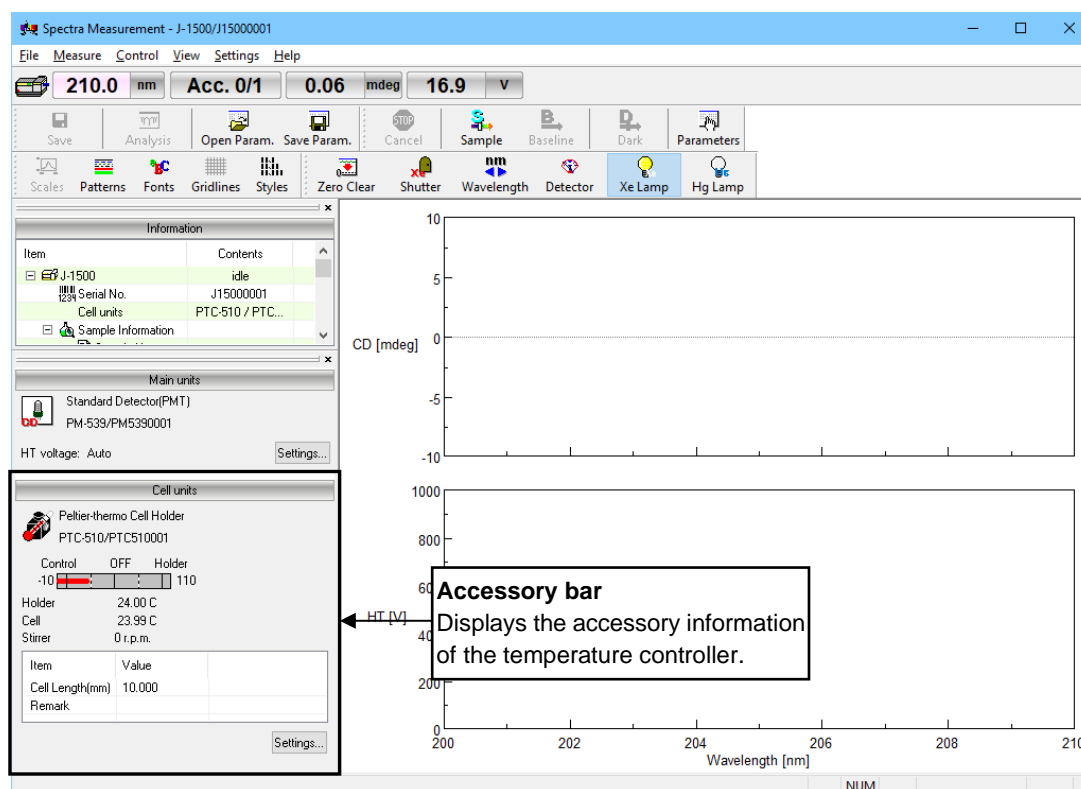

Figure 2.1 [Spectra Measurement] window
- (2) Turn on the CD spectrometer.
- (3) Turn on the PC and monitor.
- (4) Start the [Spectra Manager]. The [Spectra Manager] window is displayed.
- (5) To start the measurement program, double-click the measurement program name from the [Instrument] list of [Spectra Manager]. The window in Fig. 2.1 is displayed.
[Accessory] bar of the [Spectra Measurement] window displays the accessory information of the temperature controller to be used (see Fig. 2.1).